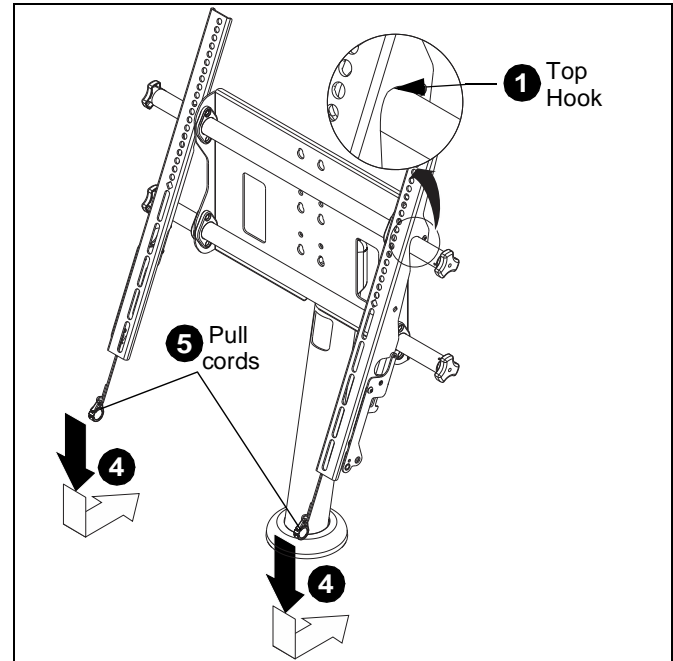

Figure 9
1. Hang screen onto the top rail of the table stand interface (S). (See Figure 9)
- Hang top hook of interface brackets (T and U) onto the top rail of the table stand interface (S). (See Figure 9)
4. Pull downward on the pull cords and swing inward toward wall, latching interface brackets to lower rail and fastening bottom of screen to the mount. (See Figure 9)
5. Attach end of pull cord (a magnet) to mount so it does not extend beyond bottom of screen. (See Figure 9)